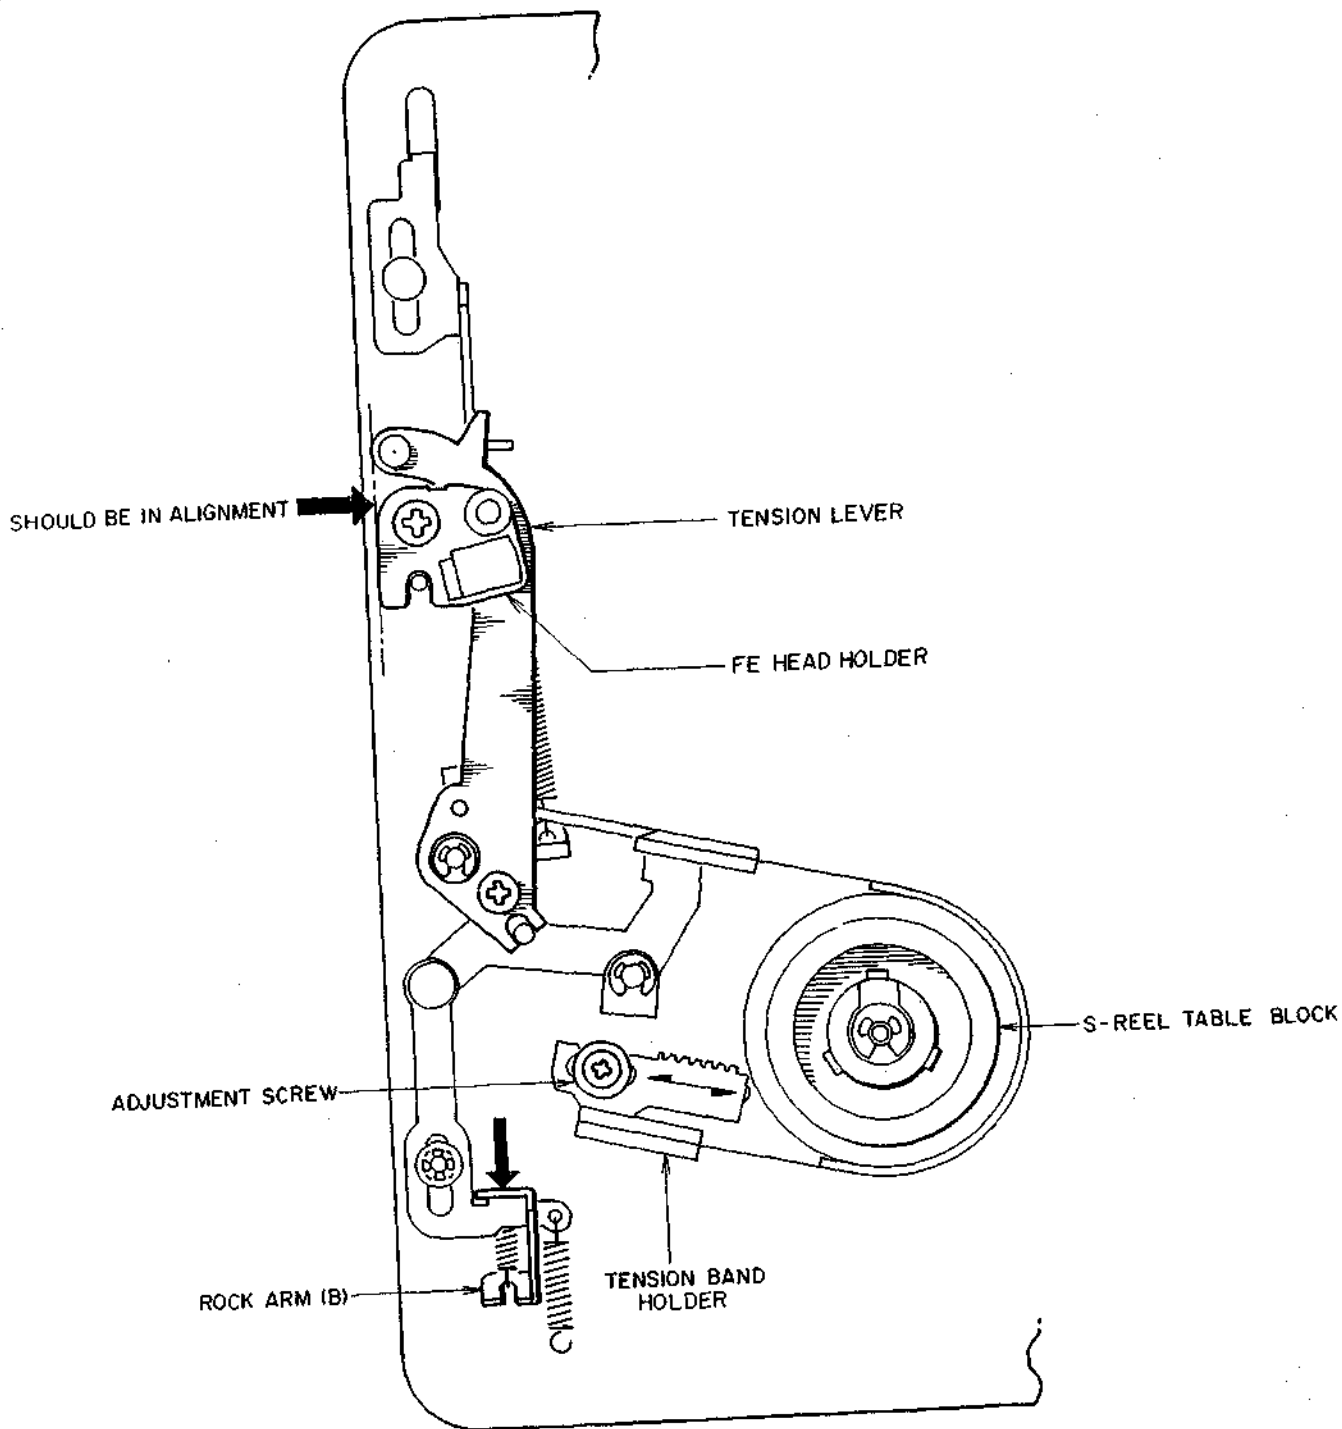

Fig. 109
1. TENSION LEVER POSITION ADJUSTMENT (Refer to Fig. 109)
- 3) Press the rock arm (B) in the arrow direction, and achieve PLAY mode.
- 5) Loosen the adjustment screw and adjust the tension band holder so that the tension lever and FE head holder are in alignment as shown in Fig. 109, and tighten the adjustment screw.